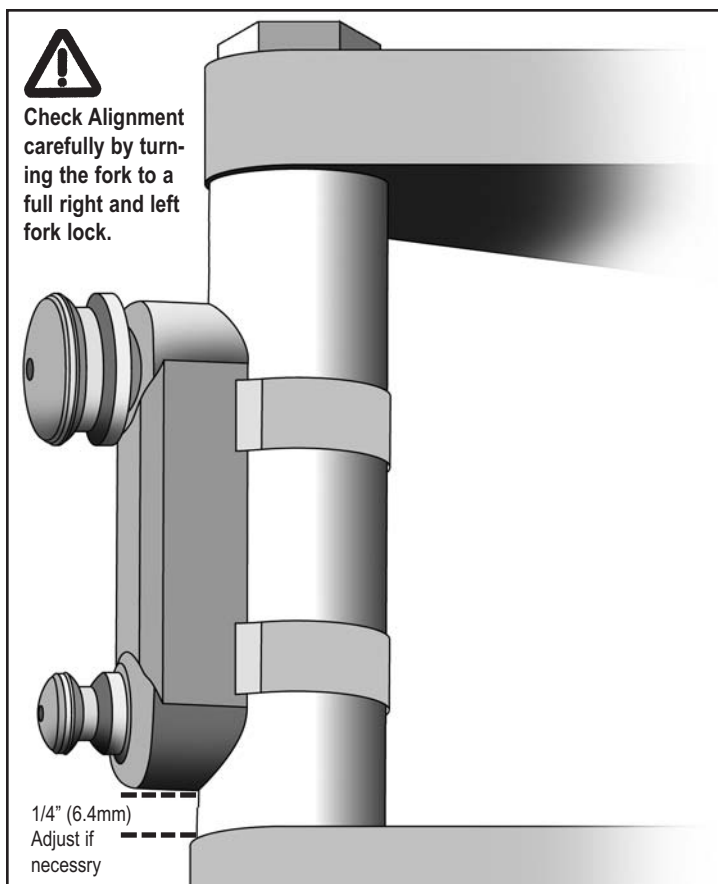

Figure 4.
11. Adjust bottom edge of Mount Cup to be 1/4" (6.4mm) from the lower triple clamp. **See Figure 4.**